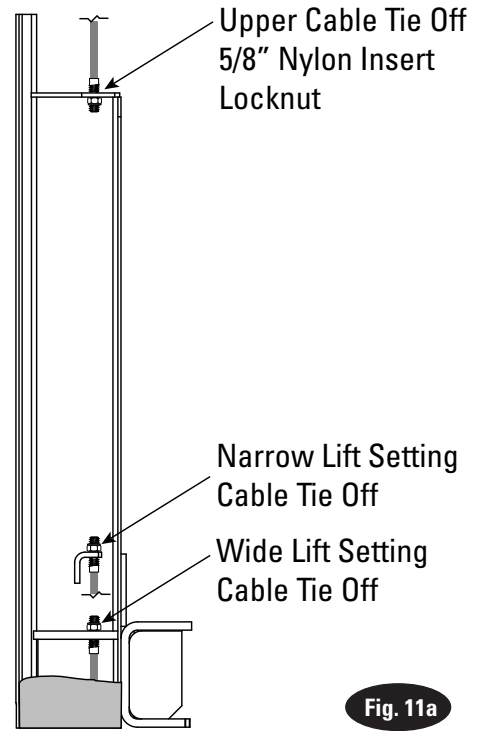
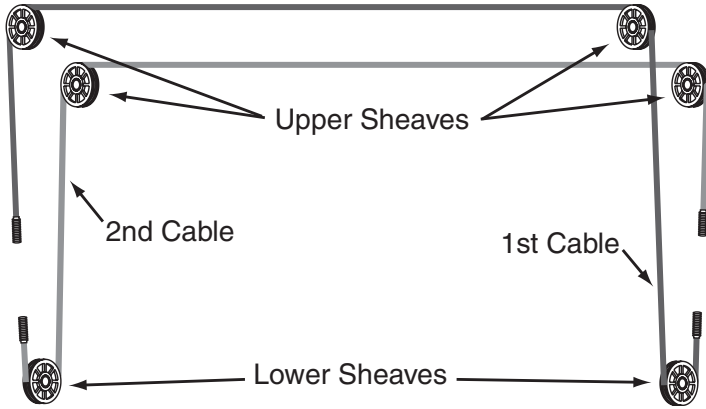

Fig. 11a
Fig. 11
(1) Per Hydraulic Cylinder
- A) Refer to Fig. 11 for the general cable arrangement. First, run a cable end up through the small hole in the lower tie-off plate, Fig. 11a.
- D) Pull the cable back down, Fig. 11a
- E) Run cable around the lower sheave, then up and around overhead sheave and across and down to the opposite carriage, Fig. 11.